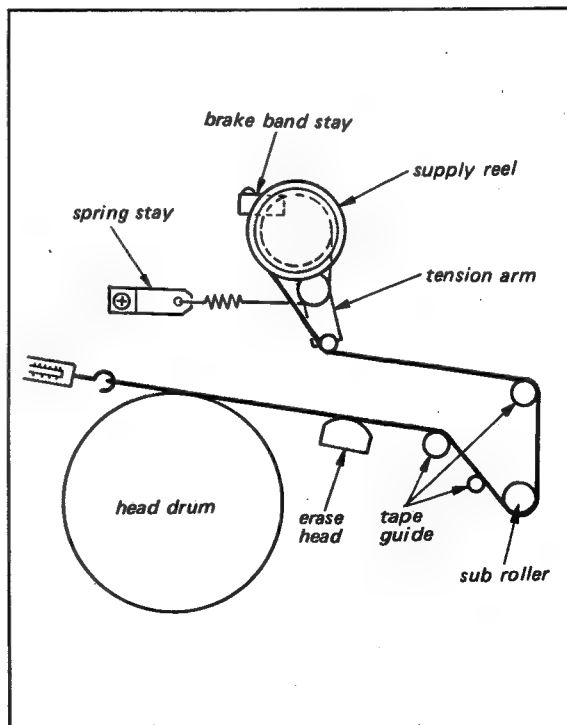

Fig. 7-19 Back tension measurement
3. Thread the tape in the path shown in Fig. 7-19.
5. Pull the scale in the direction indicated in Fig. 7-19. A steady pull at approximately the correct speed should give a reading of $45 \text{ g} \pm 5 \text{ g}$.
6. If tape tension is other than $45 \text{ g} \pm 5 \text{ g}$, bend the spring stay shown Fig. 7-19.